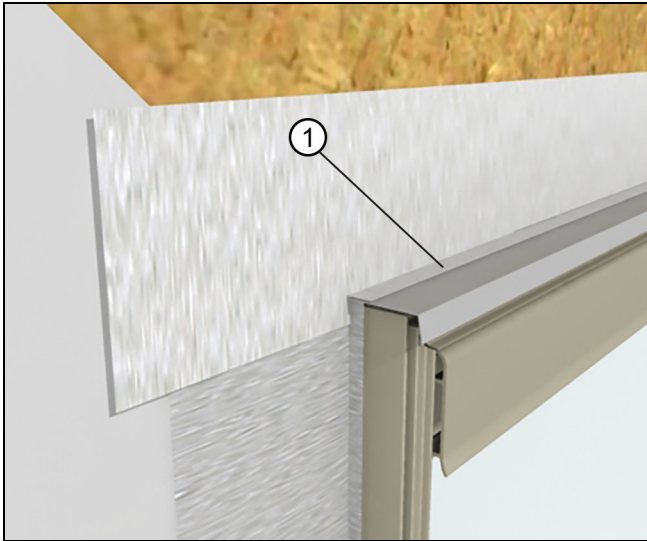

Figure 54
4. Install a layer of flashing over the vertical leg of the rigid head flash and lapped onto the horizontal leg. The flashing should extend past the jamb flashing installed earlier. See Figure 54.